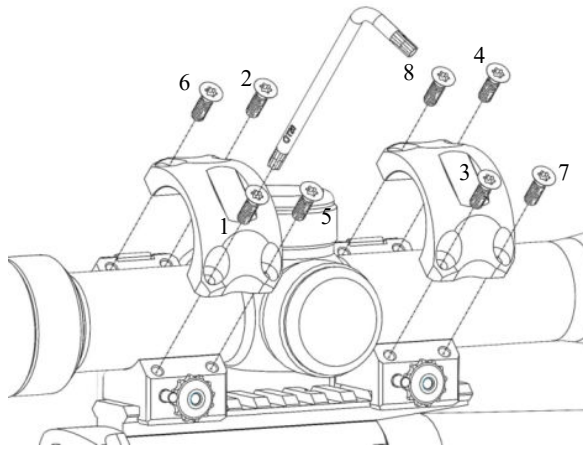

Fig. 6
- Tighten the upper ring screws gradually in a cross pattern (1-2-3-4-5-6-7-8) over several passes (Fig.6)